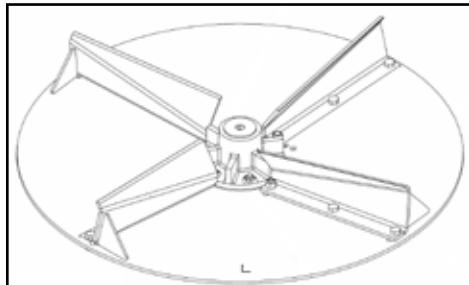
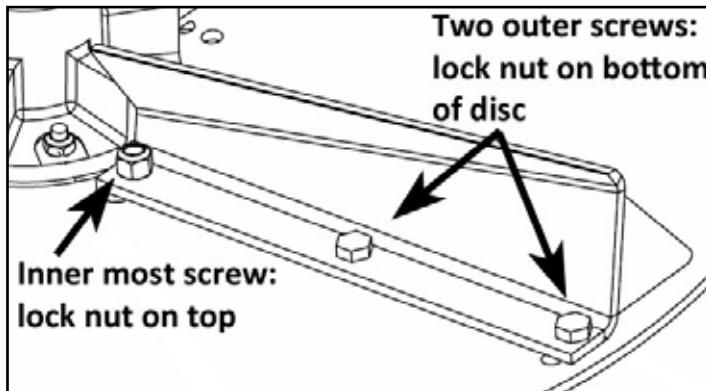

Figure 1 - LH spinner disc - gussets point counter-clockwise
Figure 5 - Detail of cap screw positions
3. Position fin with gusset near outer edge of spinner disc per figures 1 and 2.
- Figure 1 - Gusset faces counter-clockwise for lefthand disc.
5. Place capscrew in outer fin hole, through fin then spinner disc, as shown in Figure 5. On the underside of disc, place lock nut on screw and tighten by hand.
8. Install inner cap screw in opposite direction, through spinner disc then fin (Figure 5). On top of disc, place lock nut on screw and tighten by hand.
9. Finish tightening all screws to torque recommended in the "Standard Torques National Coarse (NC) Cap Screws" section of your operator's manual.
11. If spinner was removed completely from spreader, place spinner discs back in proper position before starting machine. When facing rear of spreader, the righthand disc goes on the righthand side of the spinner assembly, and the lefthand disc goes on the left side. The discs should look like Figures 1 and 2.